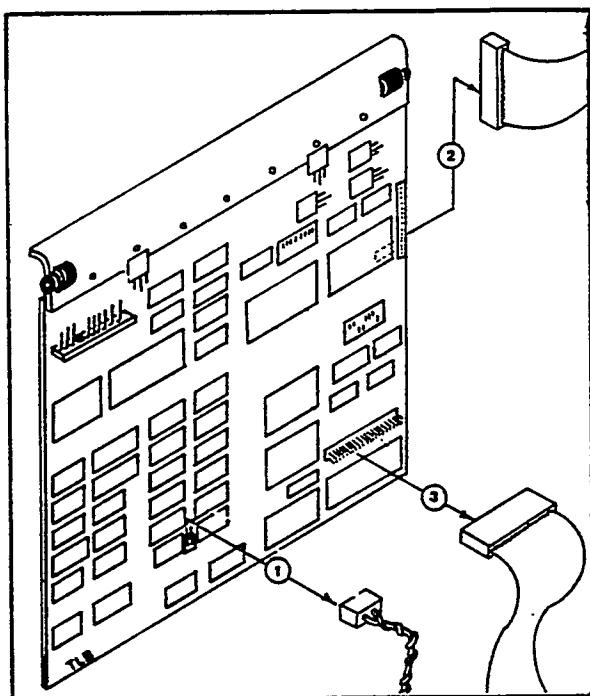

fig.1.
- () 1. Unplug the speaker connector at P402 (lower center of the TLB). fig.1.
- () 2. Unplug the RS-232 connector at P403 (back right side of the TLB). fig.1.
- () 3. Unplug the keyboard connector at P404 (lower right corner of the TLB). fig.1.